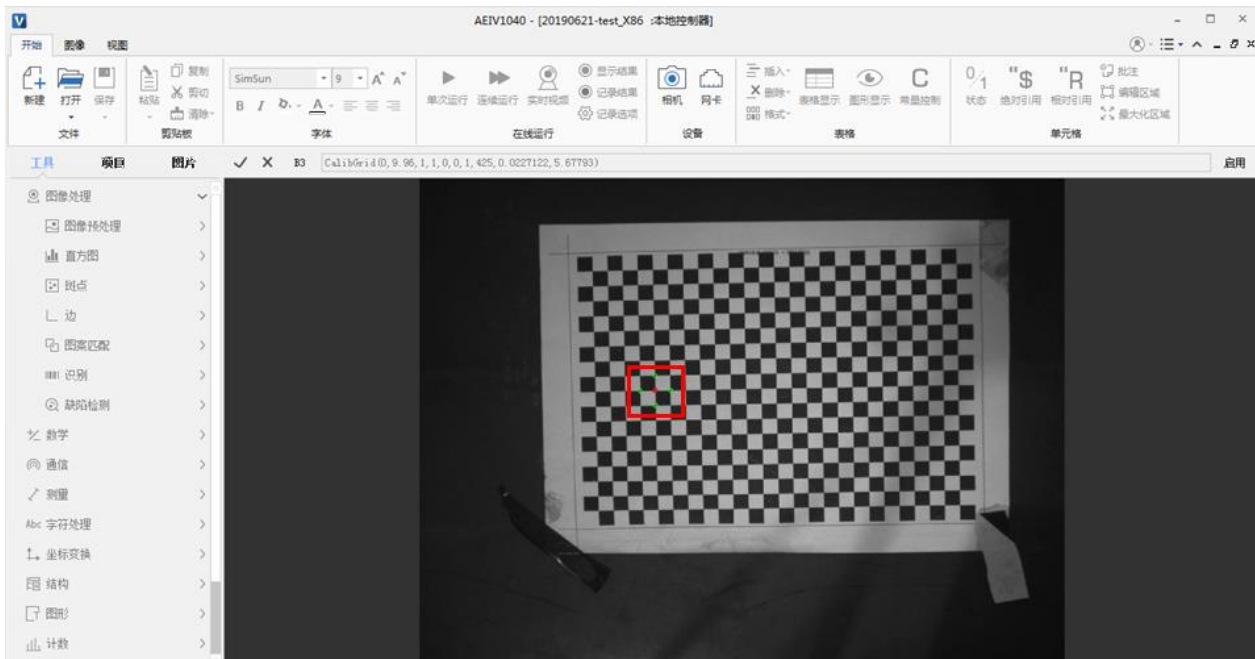

Figure 5-24 Chessboard calibration chart X-axis calibration
Step12. Continue to click <Select X-axis>, the chessboard calibration chart appears (as shown in Figure 5-24). Select one of the four green points as the positive direction of the visual coordinate system X axis (it is recommended to choose the same positive direction as the conveyor belt drive). Continue to click <Select Y-axis> and select the direction of a green dot as the positive direction of the Y-axis of the visual coordinate system. Then click <Calibrate> and <OK> to complete the calibration.